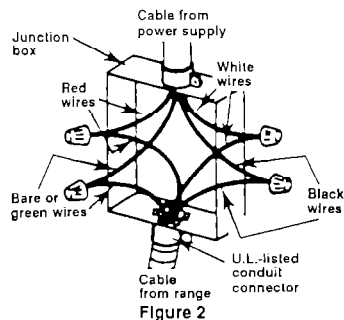

Figure 2
4. Connect the two black wires together, then the two red wires together. See Figure 2.